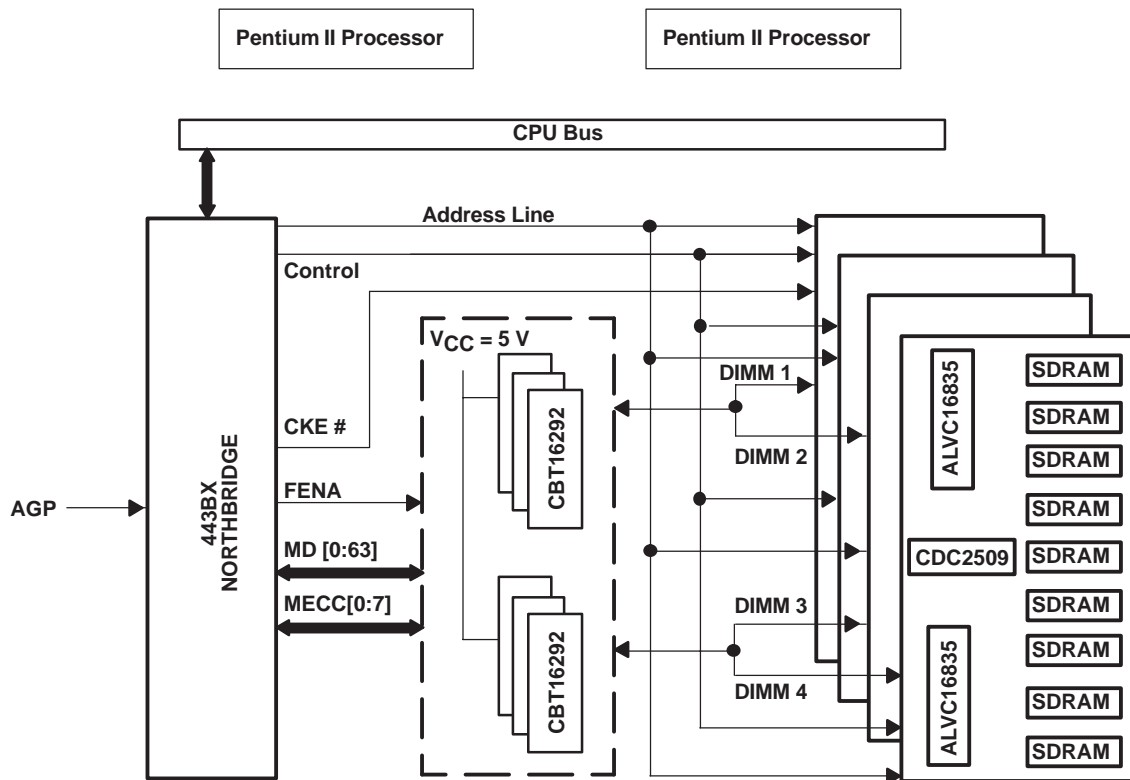
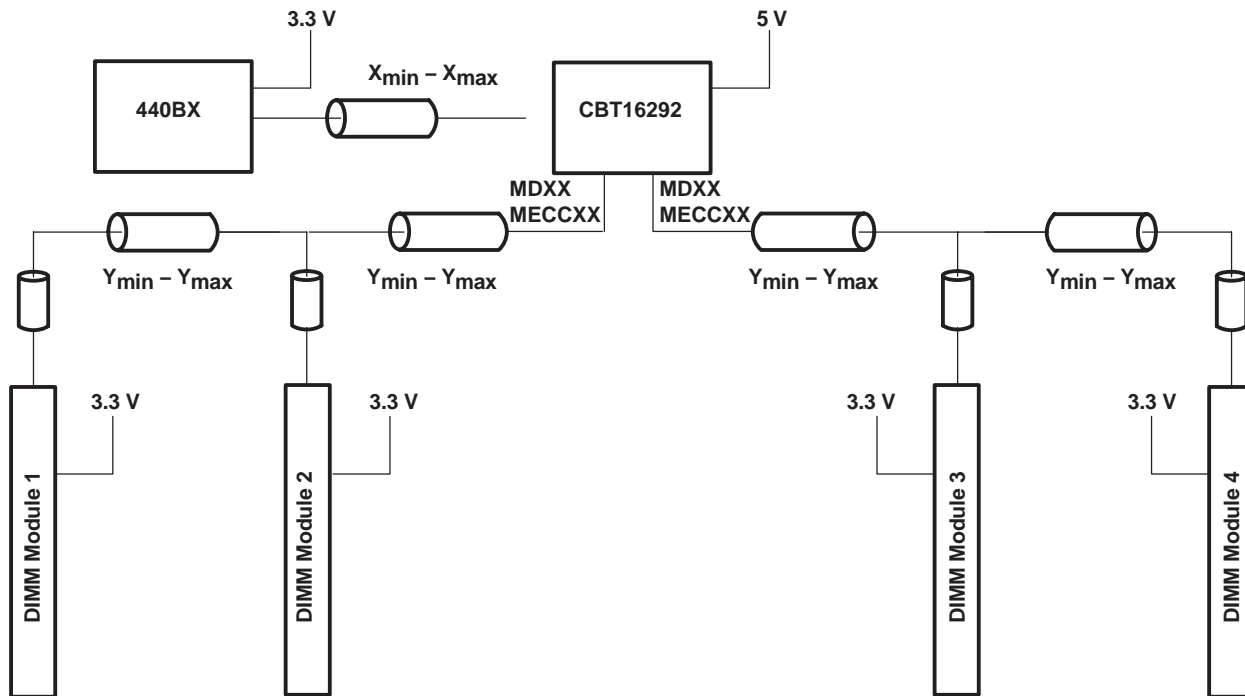

Figure 16. CBT16292 in a Four-DIMM Memory-Switching Application
Figure 17. Typical Motherboard Layout Using CBT16292
The BX controller supplies two copies of memory address (MA) for effectively driving the address load and optimizing strict timing requirements placed on it by the 100-MHz address bus. The controller also supplies the FET-enable signal (FENA) to enable CBT switches. For the data bus to offset heavy loading to the data-in/data-out (DQ) line with the additional fourth DIMM, the CBT16292 (12-bit to 24-bit mux/demux with internal 500-Ω pulldown resistors) is recommended. This reduces the loading to the data bus. To the memory controller it looks like there are only two DIMMs instead of four. Figure 16 shows the application of the CBT16292. With error correction code (ECC), six devices are needed to buffer the 72-bit signals. This task also can be accomplished by using CBT162292, CBTLV16292, or CBTLV162292 devices.
Figure 16 shows that the CBT16292 plays an integral part in the overall memory solution. Layout and routing should be taken into account. Determining the optimal line length depends on different simulation methods that can accommodate strict timing requirements of a 100-MHz bus. Figure 17 is an example of a typical motherboard layout integrating CBT16292 for four DIMMs. This layout also shows that, by using the CBT16292, the design is more effective because there can be equal load distribution, which can minimize skews.
To further optimize the layout and design shown in Figure 17, the CBTLV16292 and CBTLV162292 also are available. By using these 3.3-V FET-switch parts, all three parts of the memory solution are on the same power plane, and performance is not sacrificed.